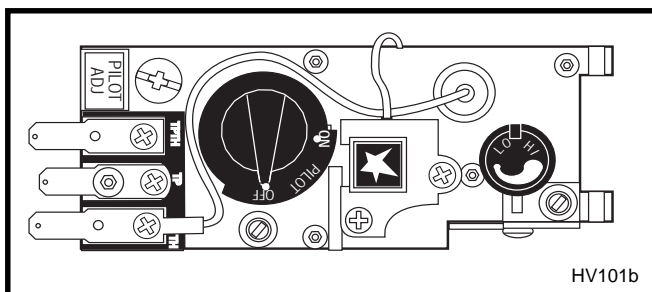

Fig. 19 UVS27R/Honeywell Control Valve OFF.
3. Push in gas control knob slightly and turn clockwise  to "OFF" (Fig. 19 or 22)